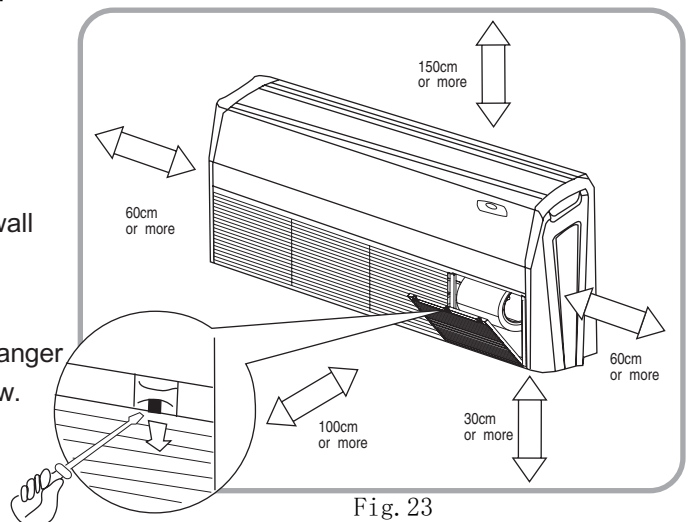

Fig. 23
- The space around the unit is adequate for ventilation (Refer to Fig.23)